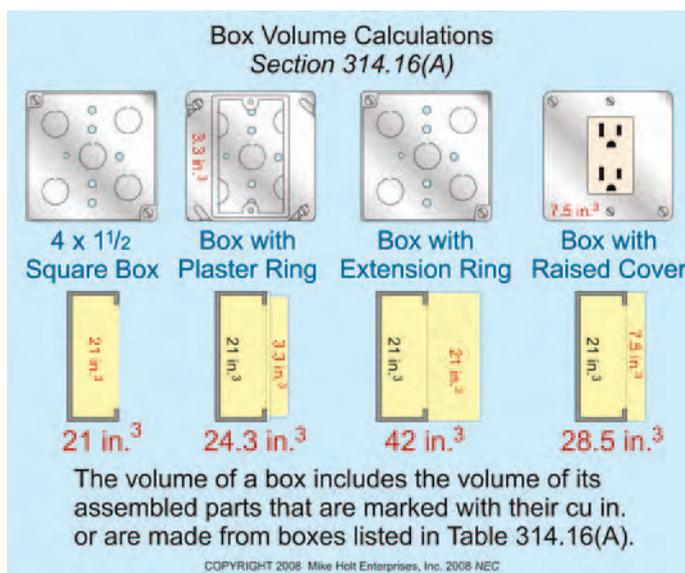

Figure 314-1
(A) Box Volume Calculations. The volume of a box includes the total volume of its assembled parts, including plaster rings, extension rings, and domed covers that are either marked with their volume in cubic inches (cu in.), or are made from boxes listed in Table 314.16(A). **Figure 314-1**